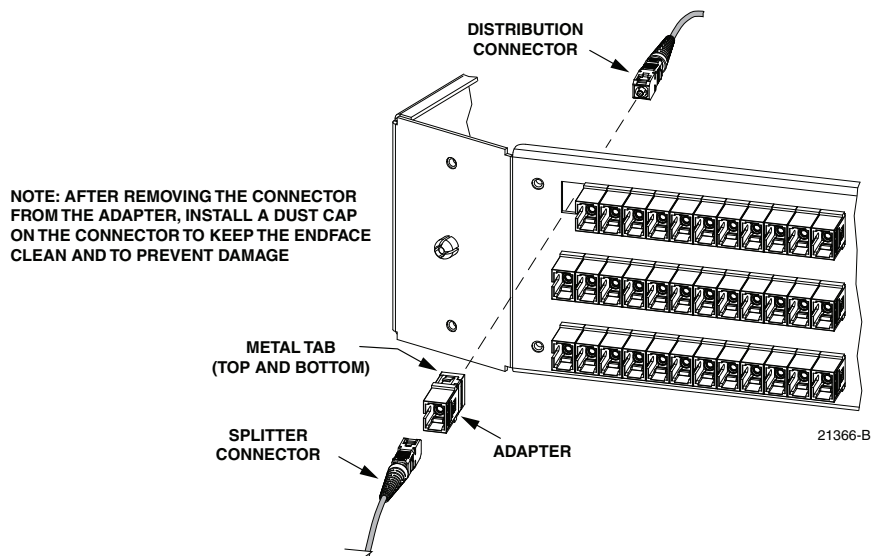

Figure 80. Adapter Removal and Replacement - Typical Distribution Panel
1. Disconnect the splitter connector from the front side of the broken adapter as shown in Figure 80 and install a dust cap on the connector.